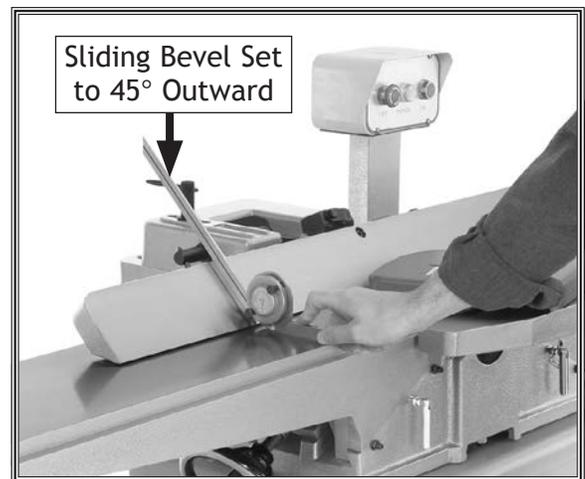

Figure 57. Example of adjusting fence to 45° outward.
3. Place sliding bevel set to 135° against fence and table, as shown in **Figure 57**.